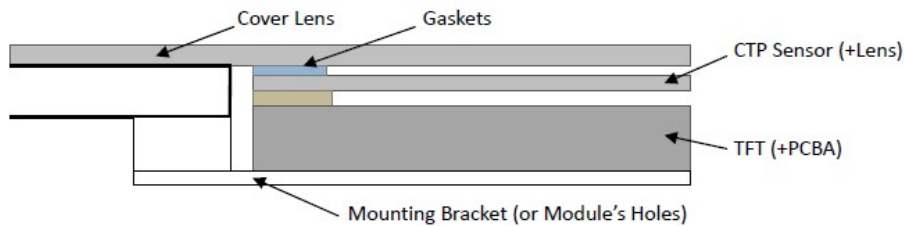

Figure 3
10.3 Additional Cover Lens Mounting (Figure 3)
10.3 覆加盖板（附图 3）